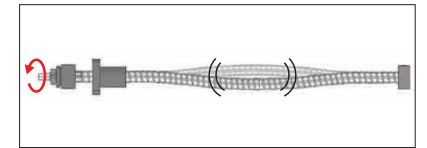

Figure 3 Resonating Ball Screw
- Screw Shaft:** When the allowable rotational speed is exceeded, resonance will begin at a unique oscillating frequency and this might disable operation. (Figure 3)